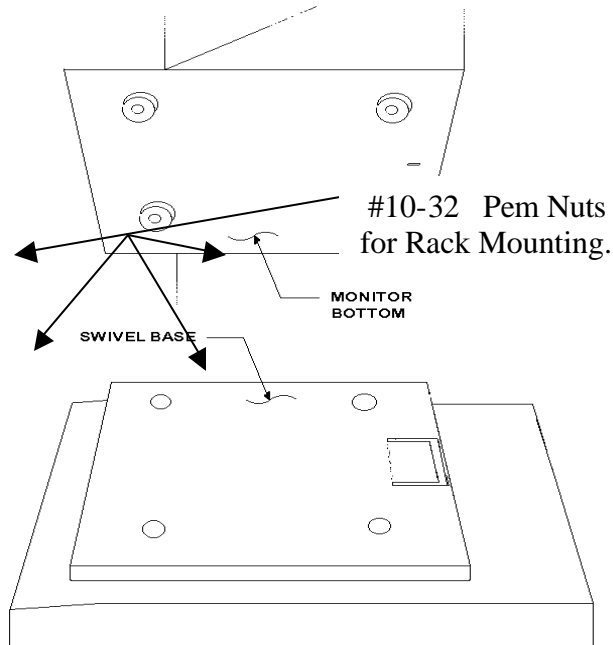

Fig. 1
- The swivel base is held onto the monitor with four mounting screws (#10-32 x .75 PPHD) at the bottom of the swivel base. (See Fig. 1)